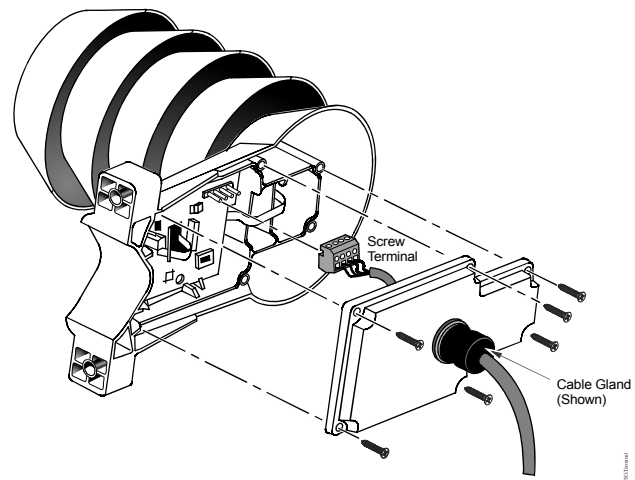

Figure 5: Preparing the Transmitter for Mounting
1. Loosen the six captive screws that hold the transmitter cover in place. See Figure 5.
4. Plug in the screw terminal block (terminal screws facing the transmitter cover), close the cover, and tighten the cover screws. See Figure 5 for plugging in the terminal block and attaching the cover.
5. Plug in the screw terminal block (terminal screws facing the transmitter cover), close the cover, and tighten the cover screws. See Figure 5 for plugging in the terminal block and attaching the cover.